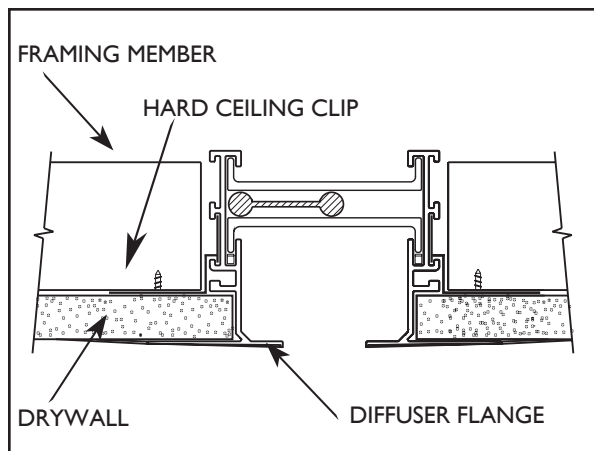

Figure 8. Drywall Installation
- Slide the Drywall tightly between the mounting clips and the FlowBar Flange as shown in Figure 8. For ease of installation, insert the tapered edge of the Drywall into this opening. For the best fit, slide the edge of the Drywall all the way to the vertical leg of the frame.